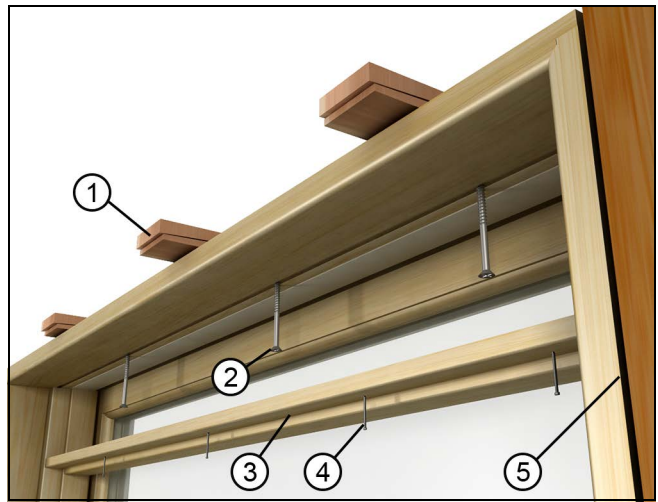

Figure 10 ELCA/ELCAP additional installation with screws.
3. Reinstall the head jamb stop and fasten with 3/4" (19) brad nails spaced 6" - 8" (152-203) apart. See Figure 10.